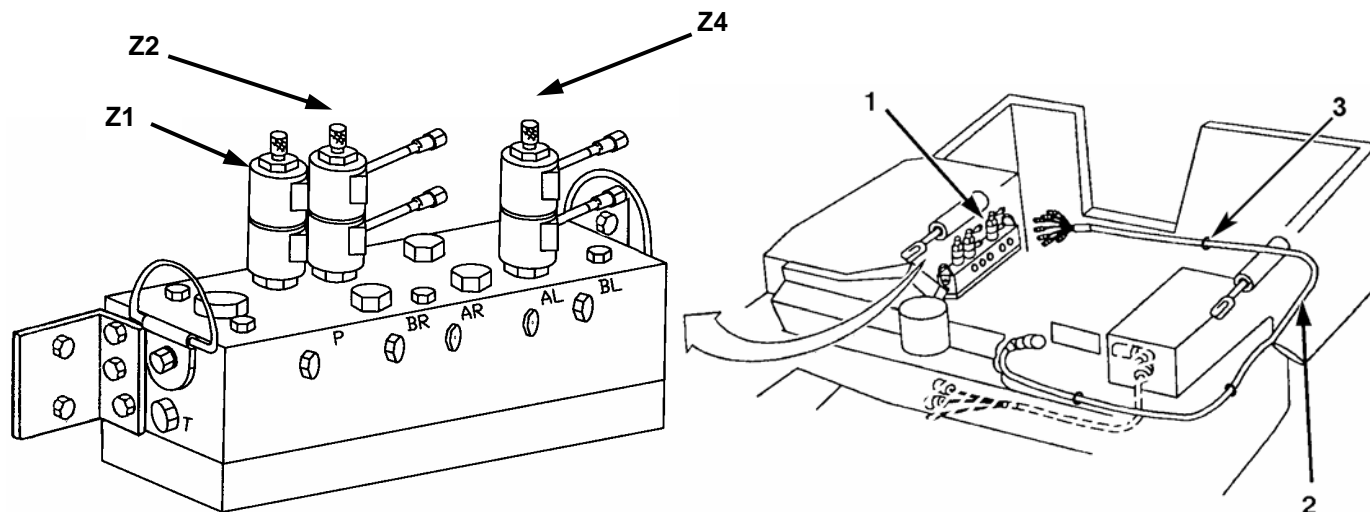

Figure 2-38. Harnesses (1 of 2).
6. Install manifold harness connector 12491622 (2) on track and blade control box (1).
7. Install control box power harness connector 12491618 (7) on track and blade control box (1).
8. Route manifold harness (Figure 2-38, 2) through hull and clamp (3) MS21333-104 to hull connect to solenoids at ports Z1, Z2, and Z4 on manifold (1).